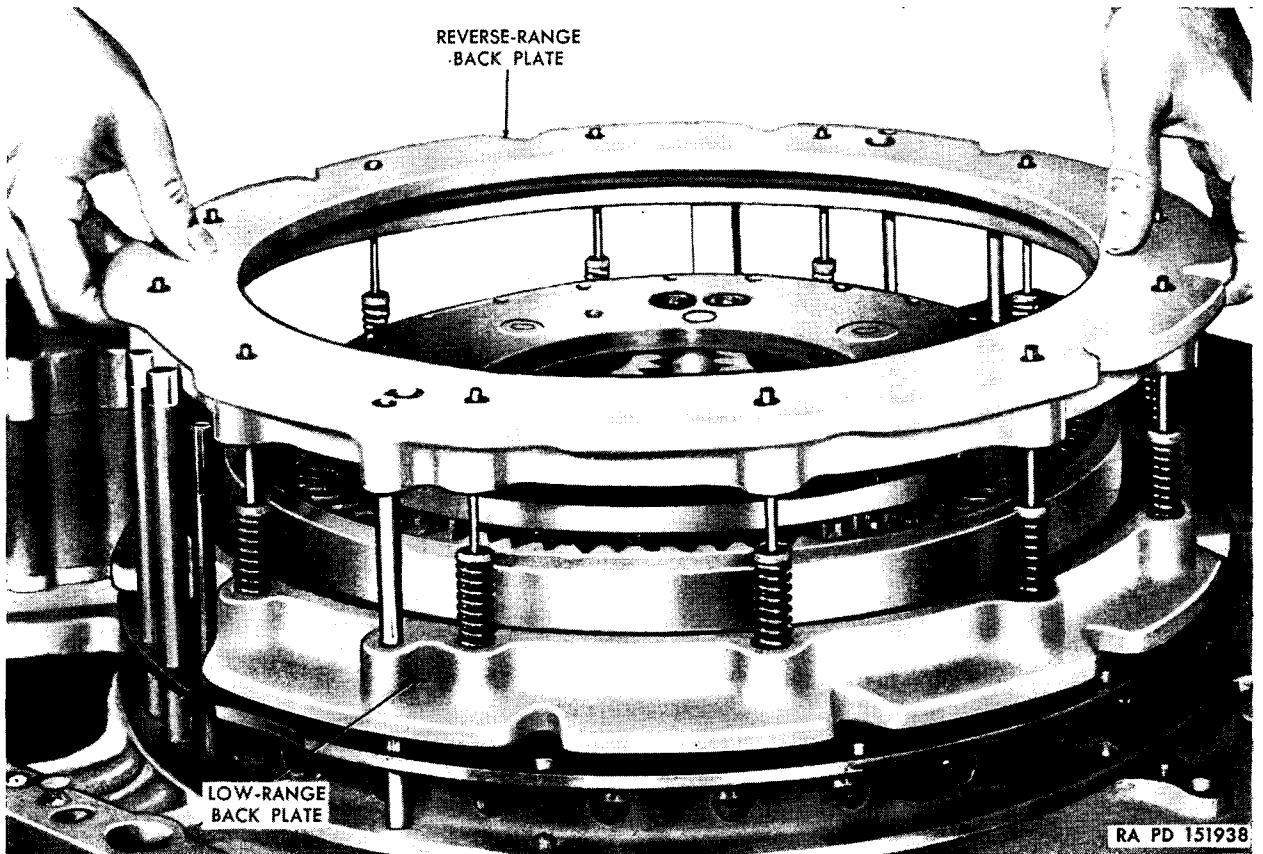
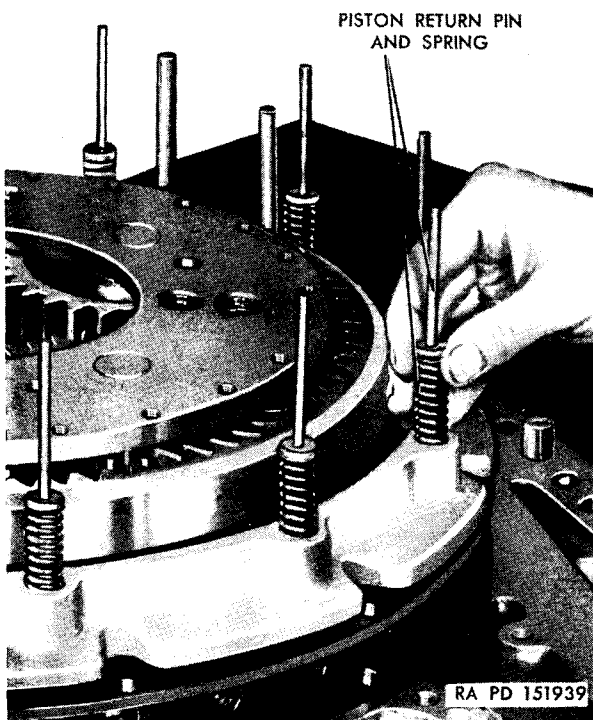

Figure 199. Removing or installing reverse-range back plate.
Figure 200. Removing piston return pins and springs.
- (1) Remove the high-range pinion assembly, rotating it as it is lifted.
- (2) Remove the two screws which secure the reverse-range back plate to the low-range back plate. Remove the reverse-range back plate (fig. 199) and the 12 reverse-range-piston-return pins and springs (figs. 200).